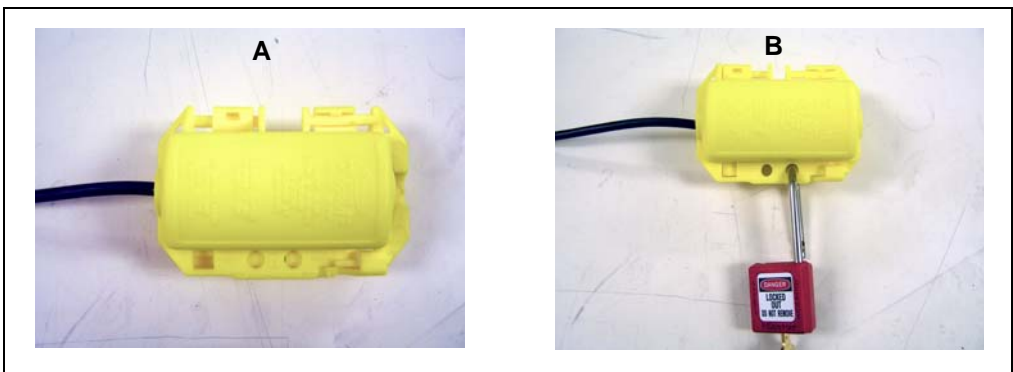

Figure H-5. Close Lockout Device and Attach Padlock.
- c. Close the lockout device and slide the cover so that the padlock holes are lined up between the cover and the base (see Figure H-5, view A). Insert a padlock (see Figure H-5, view B).